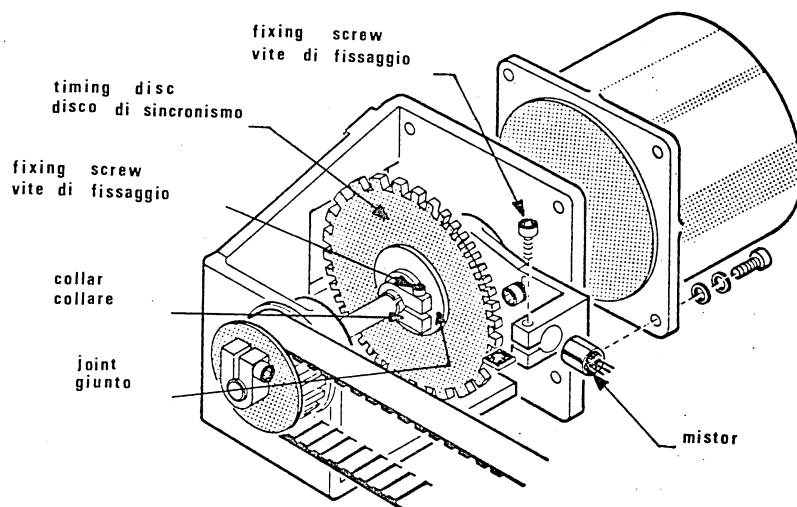

Fig. 8-11
- . Move the carriage toward the right side until the Allen screw fixing the step motor joint to the pulley shaft can be accessed (fig. 8.11)
- Move the carriage toward the right side until the allen screw of the collar fixing the step motor joint to the pulley shaft can be accessed (see fig. 8.11)